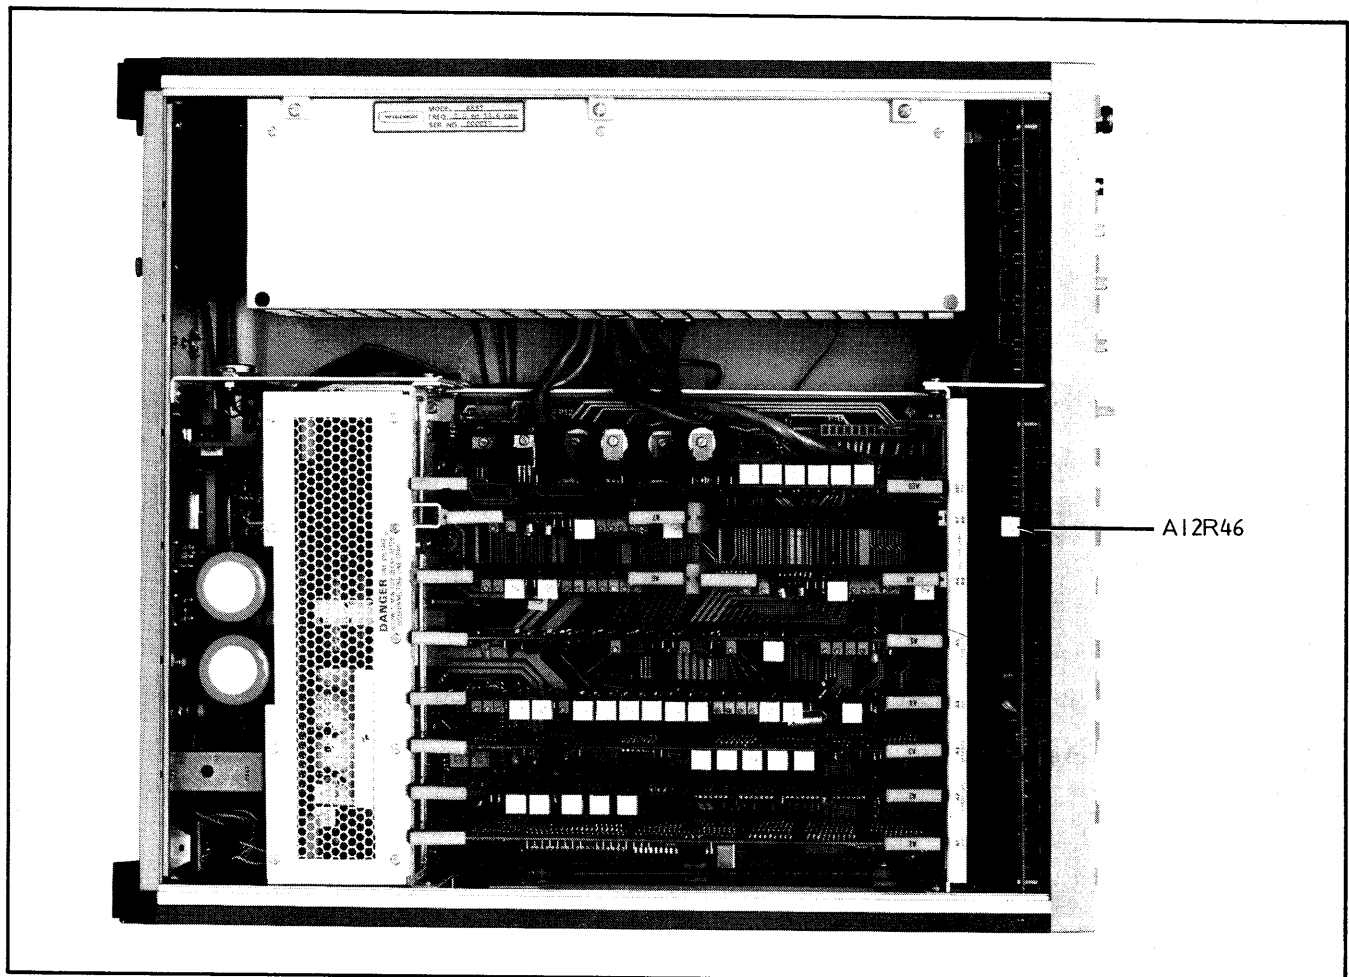

Figure 5-17. A12R46 Adjustment Location
4. Repeat steps 2 and 3, and adjust A12R46 (Figure 5-17) until the noted